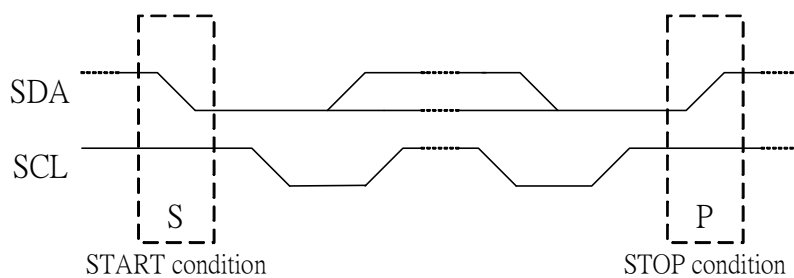

Figure 4 Definition of START and STOP conditions
Both data and clock lines remain HIGH when the bus is not busy. A HIGH-to-LOW transition of the data line, while the clock is HIGH is defined as the START condition (S). A LOW-to-HIGH transition of the data line while the clock is HIGH is defined as the STOP condition (P). The START and STOP conditions are illustrated in Figure 4.